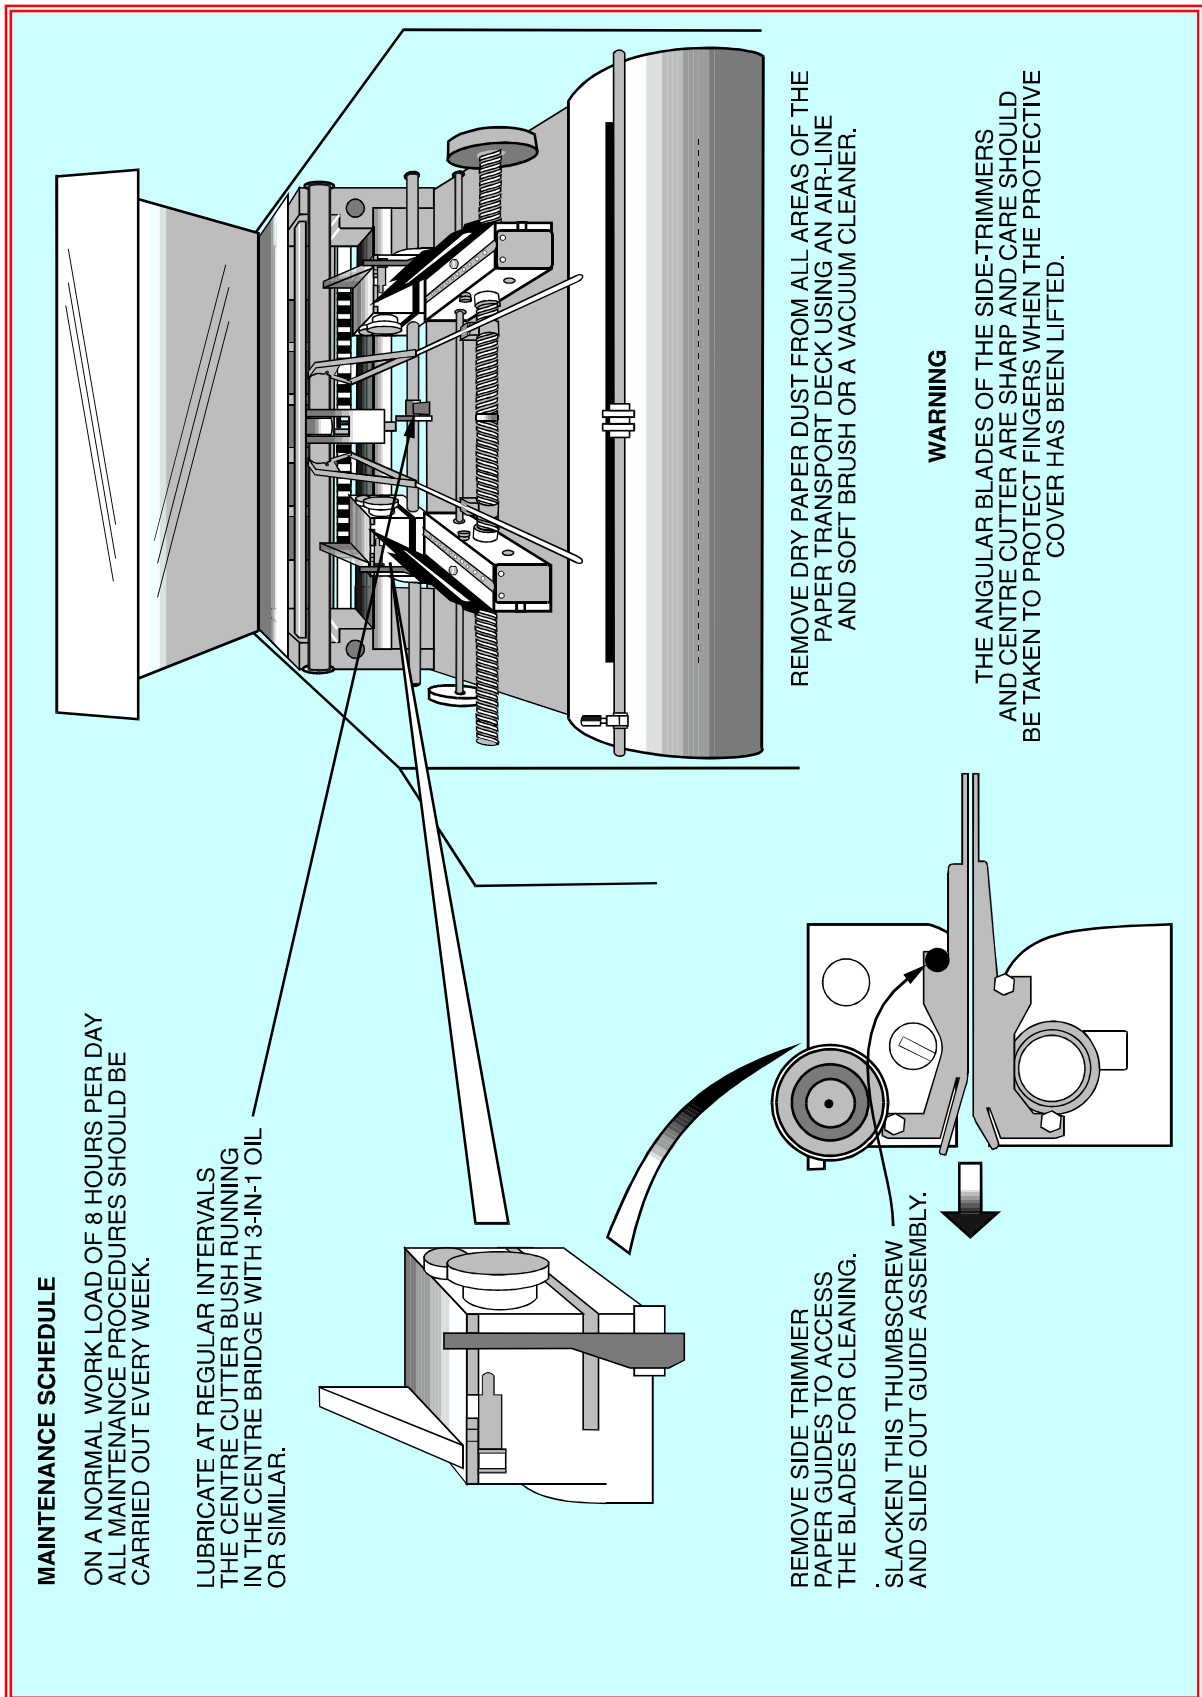

Fig 5.1 Cleaning & Lubrication Areas
- Remove each side trimmer guide by slackening the thumbscrew on the side of the trimmer block, as shown in Fig 5.1. This gives access to the trimmer blades. Clean the side trimmer blades using an airline and a soft-hair hand brush.
- Lightly oil the centre cutter bush which runs in the centre bridge (see Fig 5.1).